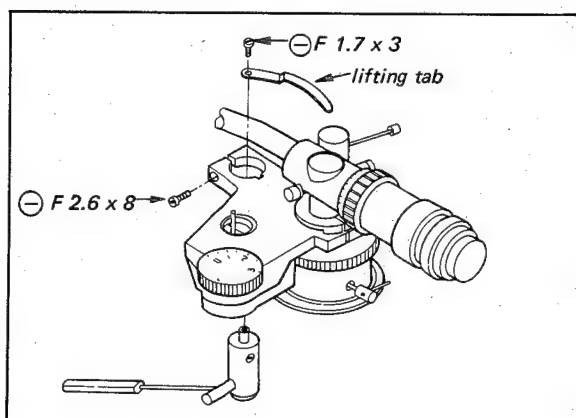

Fig. 2-14. Tonearm lifter replacement
2. Remove the screw (⊖ F 1.7 x 3) securing the lifting tab to the top of the lifter piston as shown in Fig. 2-14.
3. Loosen the screw (⊖ F 2.6 x 8) securing the lifter to the lifter base as shown in Fig. 2-14, and then depress the lifter gently. This frees the lifter.